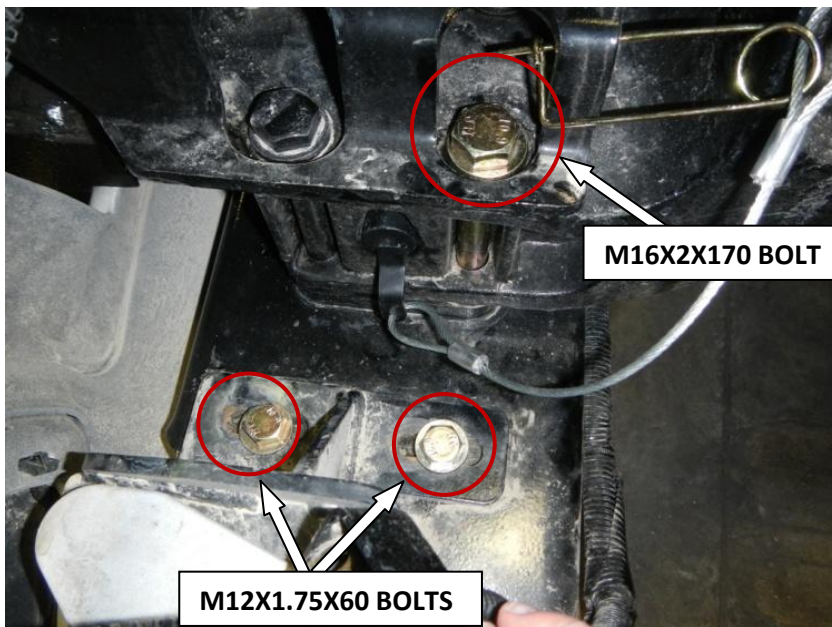

Figure 5 – Driver's side shown
- a. Install four M12X1.75X60 bolts and washers (supplied in the hardware kit) in the factory bumper bracket slots (Figure 5).
- b. Install two M16X2X170 bolts and washers in the tow receiver holes (Figure 5).